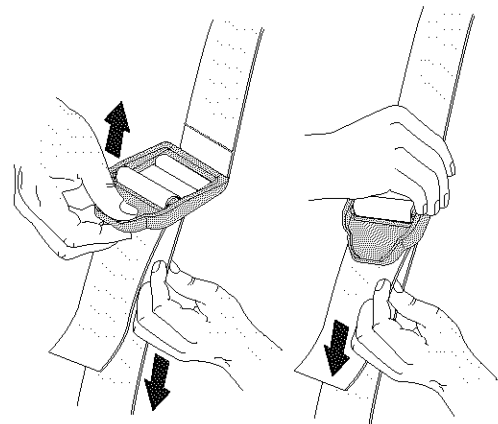

Fig. 8
4. While standing in the operating position adjust length to fit the operator's size. Pull tab to lengthen, pull strap to shorten (Fig 8).